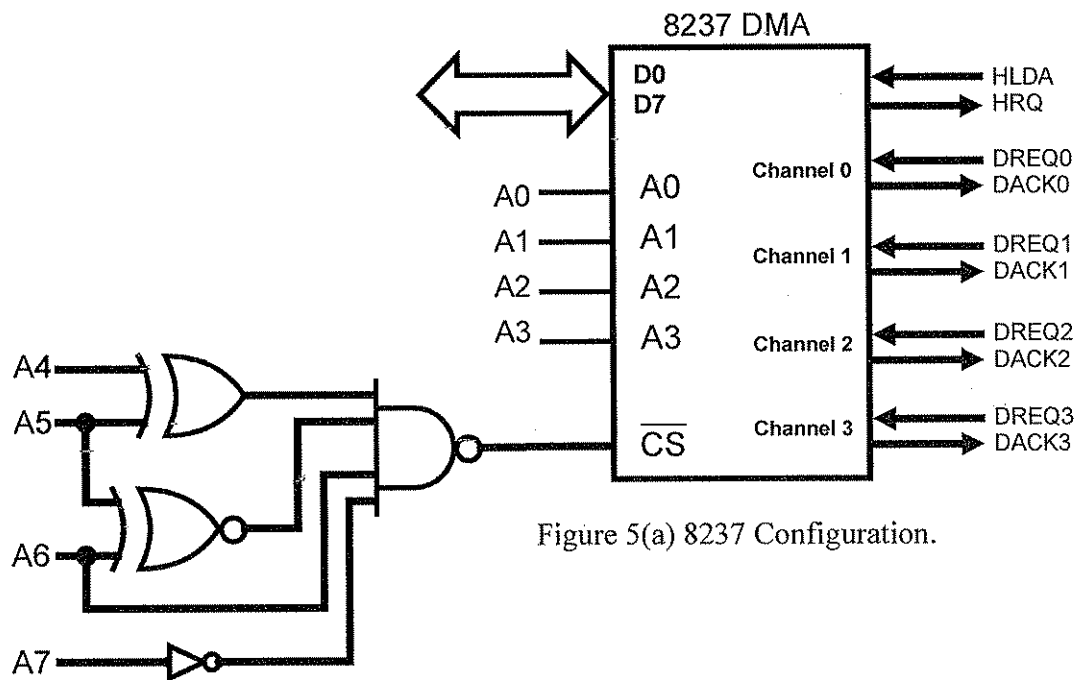

Figure 5(a) 8237 Configuration.
- (a) The 8237 DMA is configured as shown in Figure 5(a). Determine the port addresses assigned to the four channels. Write a program using channel 1 memory address and count registers to transfer 2K starting from offset 6789H using the port address obtained. (5 marks)
- (b) A transmission system uses asynchronous serial data communication as shown in Figure 5(b) with LSB being transmitted first to transmit a passkey to the receiver.